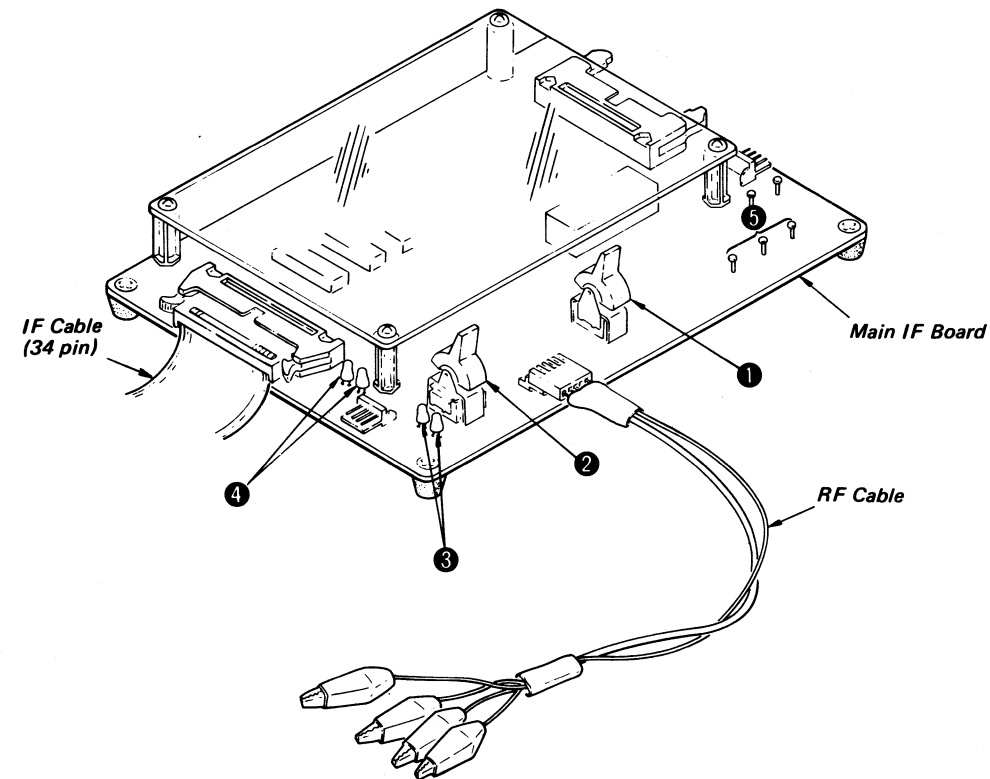

Fig. 2-4 IF Board 52/53 Configuration
- (1) IF Board 52/53 configuration (Refer to Fig. 2-4)